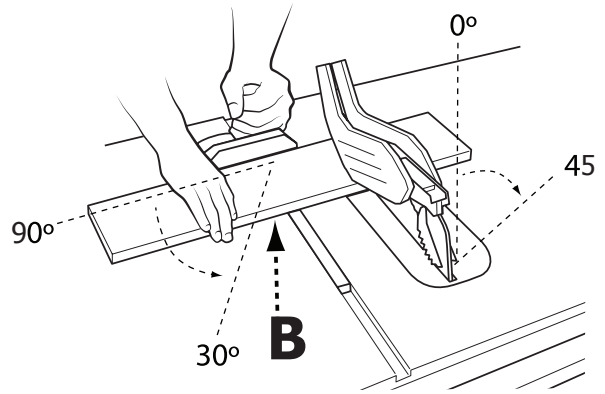

Figure 25
Miter crosscutting is the same as crosscutting except the miter angle (B) is set to an angle other than 90° (Fig. 25) on the next page.
This is a combination of bevel crosscutting and mitering. Refer to (Fig. 25) and follow the instructions for both bevel crosscutting and mitering. Remember to use the right miter slot on the right side of the blade for all bevel cuts.